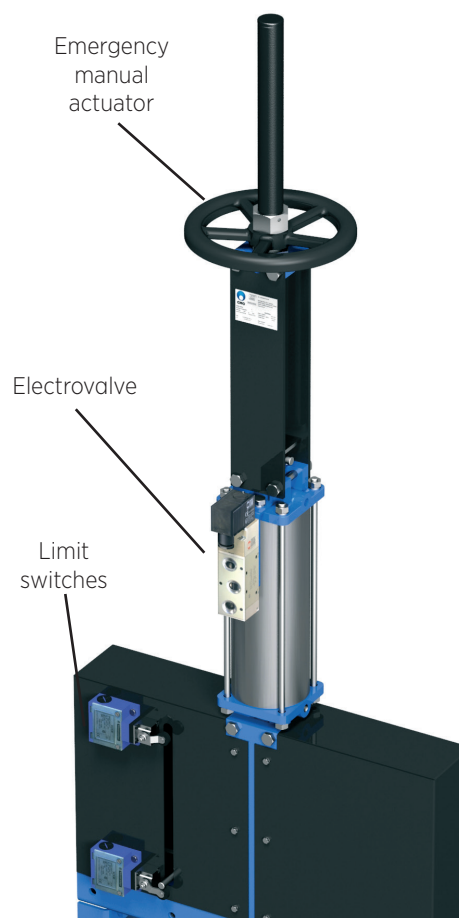

Fig. 10
**ELECTROVALVES (FIG. 10):** For air distribution to pneumatic actuators
**MECHANICAL LIMIT SWITCHES, INDUCTIVE SENSORS AND POSITIONERS:** Installation of limit switches (fig. 10) or inductive switches to indicate specific valve position, and positioners to indicate continuous position.
**EMERGENCY MANUAL ACTUATOR (HAND WHEEL / GEAR BOX):** Allows manual operation of the valve in the event of power or air failure (Fig 10).